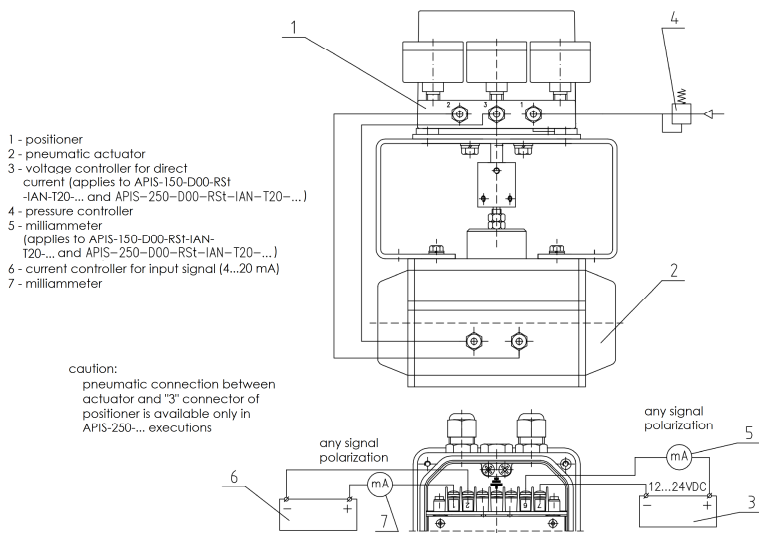

Fig. 19. Diagram of meter circuit for starting of the APIS-150-.... and APIS-250-....positioner
- Positioner APIS-150-... and APIS-250-... installed on actuator acc. to point 9.5. is to be connected with meter circuit acc. to the diagram shown on Fig. 19.